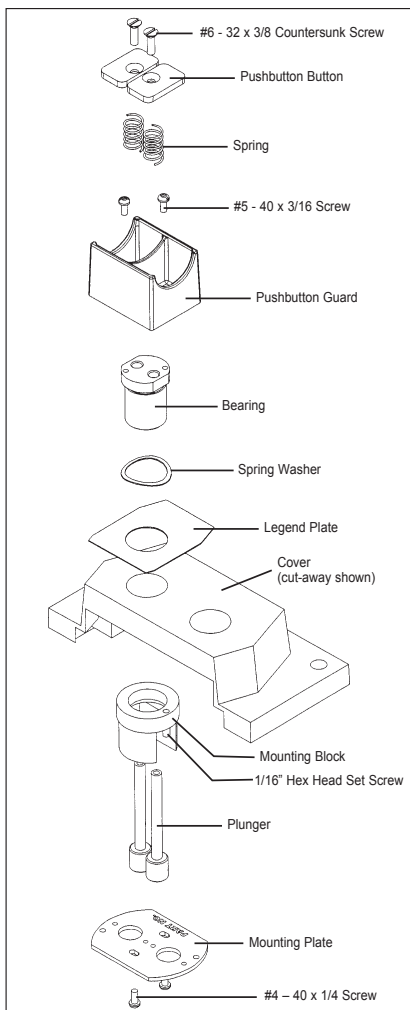

Figure 5. Assembly of Double Pushbutton Operator
- Install double pushbutton bearing and spring washer to the front side of the cover by threading it down tight to the cover in the desired location (see Figure 5). If a DL Legend Plate is required, first position the legend plate onto the cover then the spring washer. Thread the bearing into place. Next, position the pushbutton guard onto the front of the cover with one rectangular opening above the other. Using the two (2) #5-40 x 3/16 screws, fasten the guard so that it is square to the cover. On the inside of the cover, thread the mounting block to the bearing. Orient the mounting block so that the contact blocks will be in the desired position (see Figure 2).
- Tighten the set screw, thereby locking the pushbutton assembly to the cover. From the inside of the cover, insert the two (2) plungers through the pass through holes in the bearing.
- On the outside of the cover, place one (1) spring onto each plunger. Using a #6-32 x 3/8 countersunk screw, fasten the proper colored pushbutton button onto the end of each plunger in the operator location as required. Next, fasten the mounting plate to the mounting block using the two (2) #4-40 x 1/4 pan head screws provided.